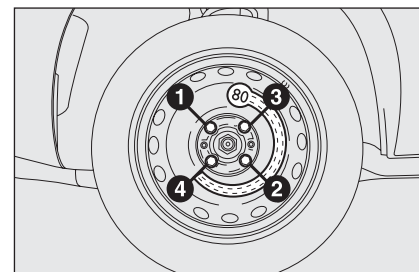

fig. 16
- ☐ Using the wrench provided, tighten the bolts in the sequence shown previously for the space-saver spare wheel **fig. 16**;